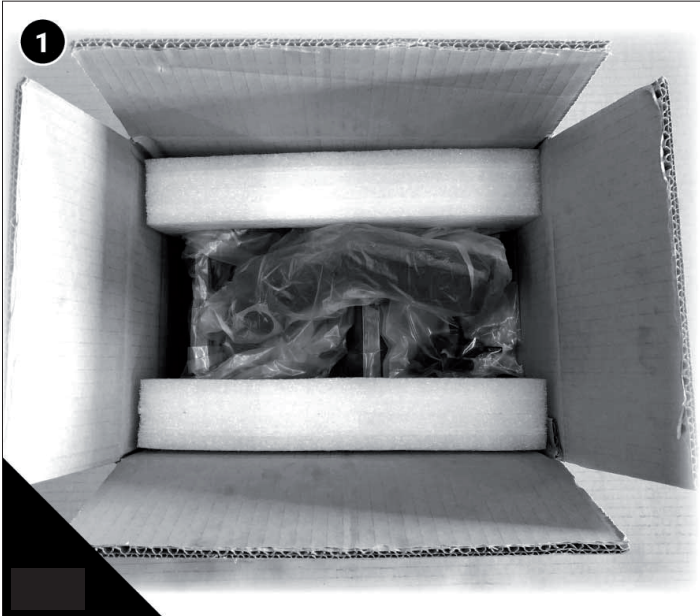
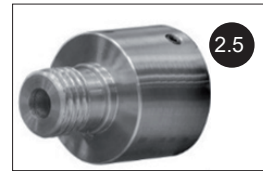

Fig. 17
Fig. 19
Fig. 17: Unpacking Revo 1216 Expansion Set 254 mm. (1) Delivery contents. (2) Components unpacked. (2.1) Extension Bed 254 mm. (2.2) Toolrest Extension. (2.3) Extension Bed Bolts. (2.4) Lock Handle. (2.5) Outboard Adapter.
Fig. 17 - Fig. 19: Unpacking Revo 1216 Expansion Set 254 mm. (1) Delivery contents. (2) Components unpacked. (2.1) Extension Bed 254 mm. (2.2) Toolrest Extension. (2.3) Extension Bed Bolts. (2.4) Lock Handle. (2.5) Outboard Adapter.
5. Identify the correct orientation of the tool rack (Key 3). The lip of the rack should not be visible. In Fig. 17 the shelf is upside down. A properly installed rack should have the largest hole (faceplate storage) on the furthest left and towards the operator.